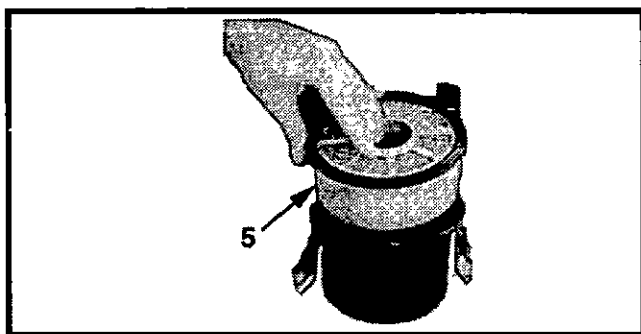

Figure 5-6 Remove Oil Bath Filter Element
2. Withdraw element (5, Figure 5-6).